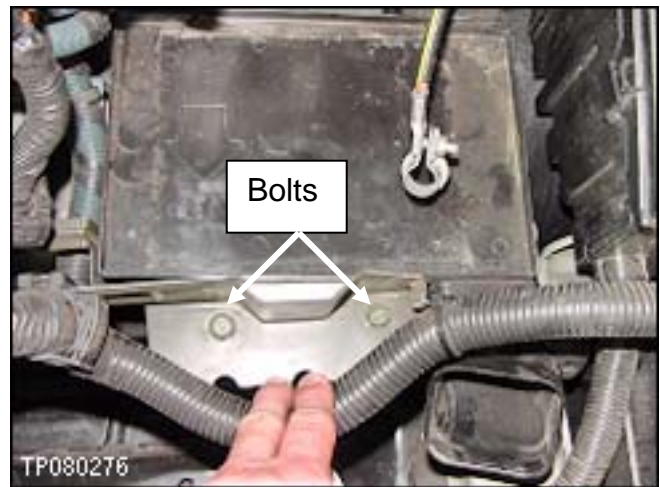

Figure 7
4. Remove 2 bolts shown in Figure 7 and move the main harness forward.